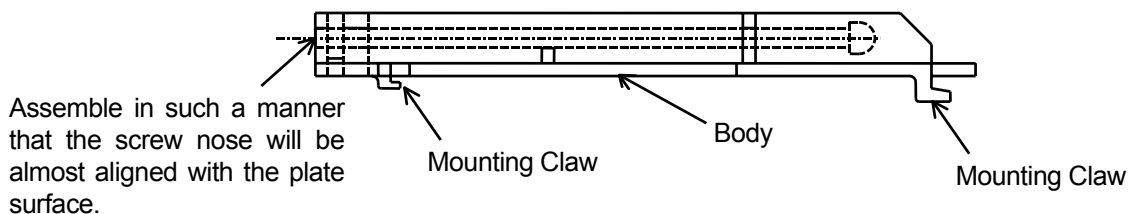

Fig. 3.2 Mounting bracket
- 1) Assemble the mounting bracket referring to Fig.3.2.